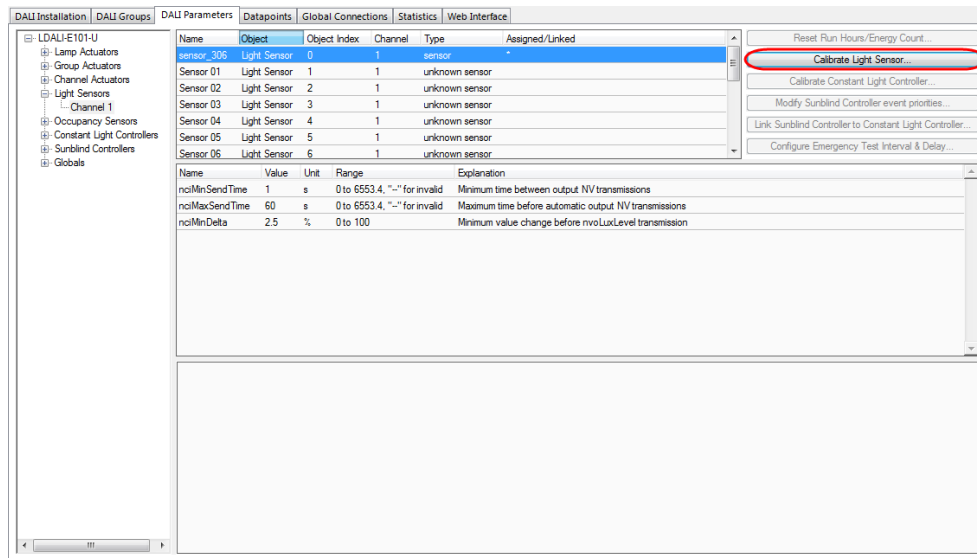
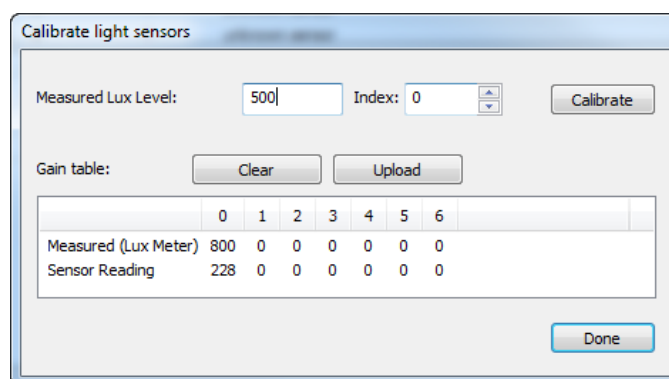

Figure 26: Parameterize Light Sensor.
Figure 27: Calibrate Light Sensor.
2. Select the light sensor index 0 and click on the **Calibrate Light Sensor...** button as shown in Figure 26. The light sensor calibration window as shown in Figure 27 is displayed.